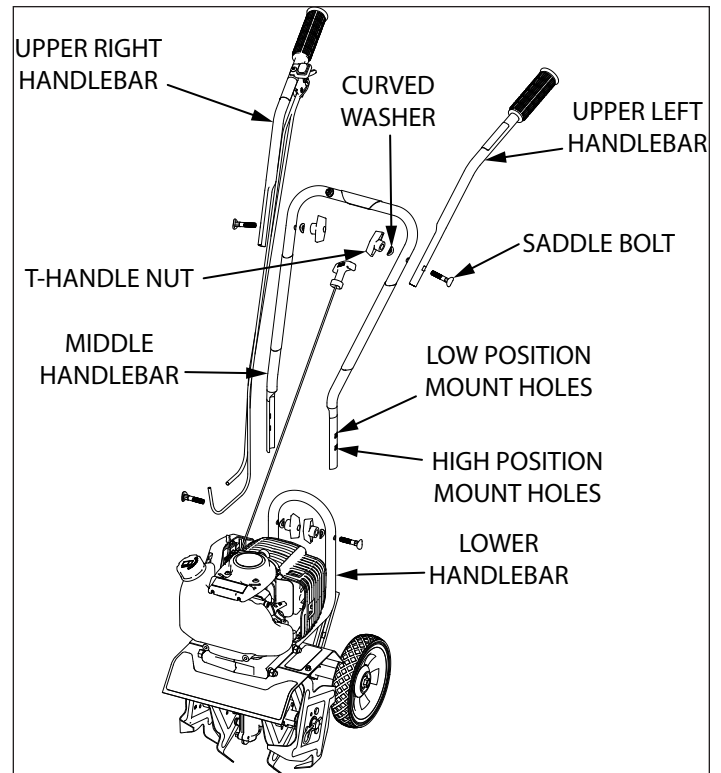

FIGURE 1
- Using two T-handle nuts, two saddle bolts, and two curved washers, attach the middle handlebar to the lower handlebar that is already connected to the cultivator assembly (**SEE FIGURE 1**). Make sure the pull cord is in the center of the middle handle bar when attaching. The middle handlebar can be installed in one of two positions, one high and one low. **DO NOT** overtighten the T-handle nuts.
- Attach the upper right and left handlebars to the middle handlebar using the two remaining T-handle nuts, saddle bolts, and curved washers (**SEE FIGURE 1**). **DO NOT** overtighten the T-handle nuts.